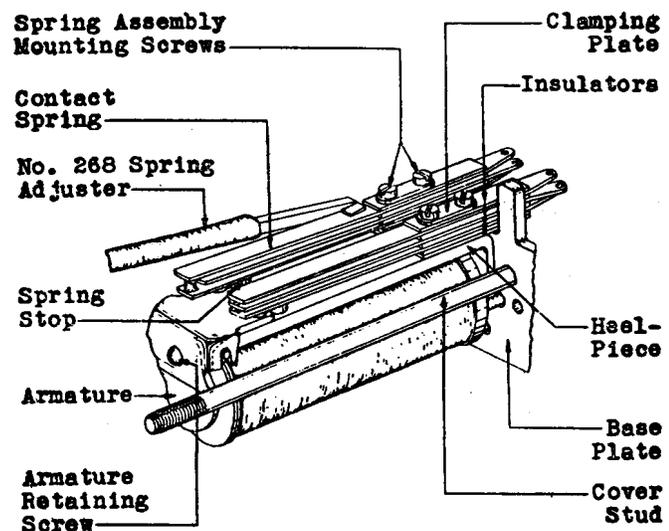

Fig. 6 - Method of Adjusting for Contact Pressure of All Relays Except 194- and 366-type Relays
(7) *All Relays Except 194- and 366-type Relays:* Adjust the spring as required with the No. 268 spring adjuster. Place the adjuster on the front end of the spring but in back of the contacts and armature studs and slide it back to a point about 1/4" from where the spring leaves the spring assembly as shown in Fig. 6. Adjust the spring at this point with a slight twist upward or downward as required, exercising care not to disturb adjacent springs.